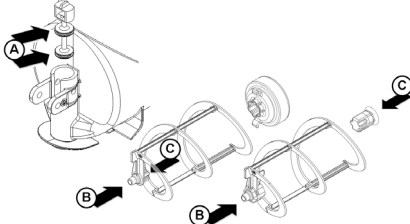

figure 8
- 2 Lubricate faucet piston, outer spiral and outside magnetic rotor (see points A, B and C of figure 8) only with the grease supplied by the manufacturer or other **food grade approved** lubricant.